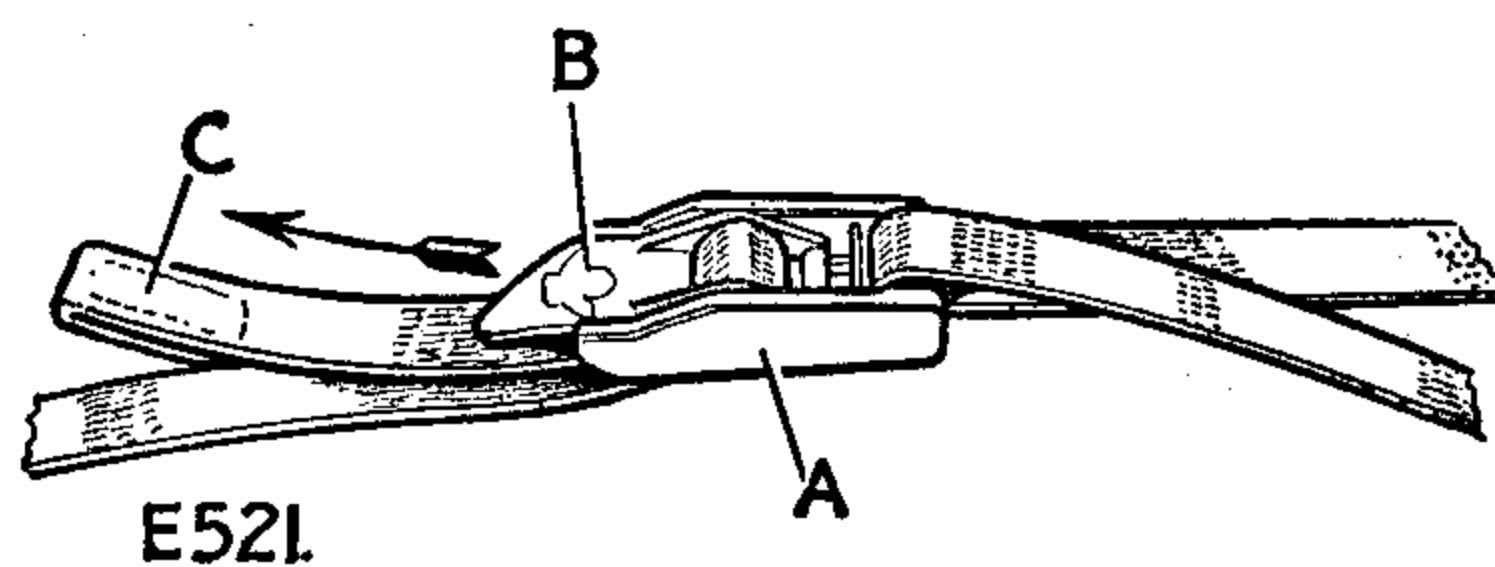

Fig. 19. Fastening the seat strap buckle, third stage.
- (e) The tongue 'B' should rest on the buckle 'A' as shown at Fig. 19. Pull free end of strap 'C' in direction of arrow to adjust. Straps should be comfortably tight, just enough to prevent undue body movement.